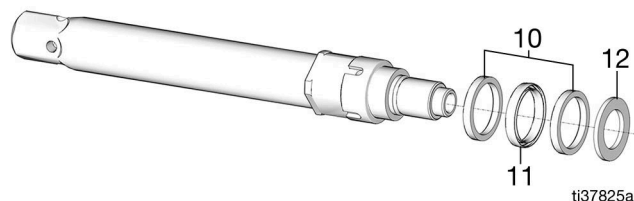

FIG. 24
- Remove the piston seal retainer washer (12), the piston seal (11), and the piston seal back-up rings (10), then replace with new parts from the seal repair kit (FIG. 24).